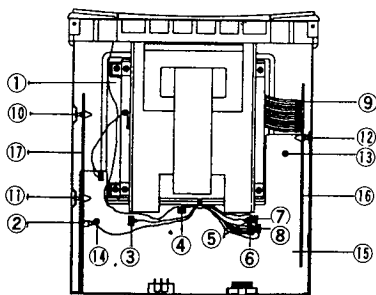

Fig. 3
2. Remove connectors ① to ⑨, and then remove pcb supports ⑩ to ⑫ in Fig. 3
3. Remove screws ⑬ to ⑮, and then remove the pcb-1 ⑮, pcb-2 ⑮ and pcb-3 ⑮